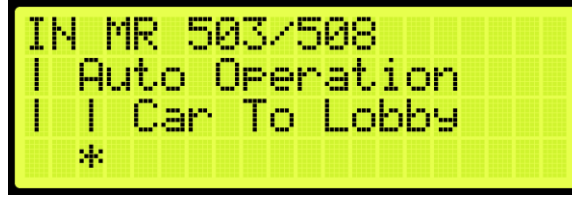

Figure 404: Category and Input
8. Scroll and select the desired input or output. Figure 404 shows the Auto Operation category to assign Car to Lobby to an unused input.
4. Scroll and select the input or output to be removed (See Figure 404).